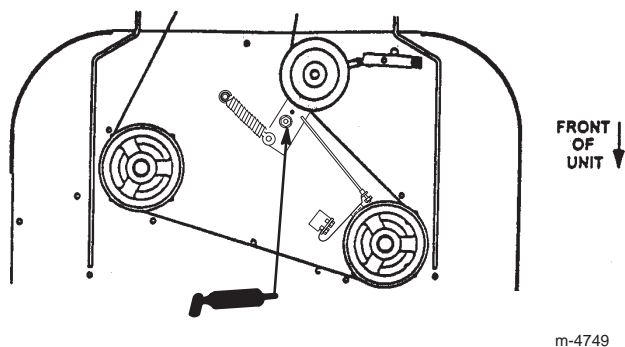

Figure 42
3. Lubricate the blade belt idler arm pivot (Fig. 42) after every 50 operating hours.